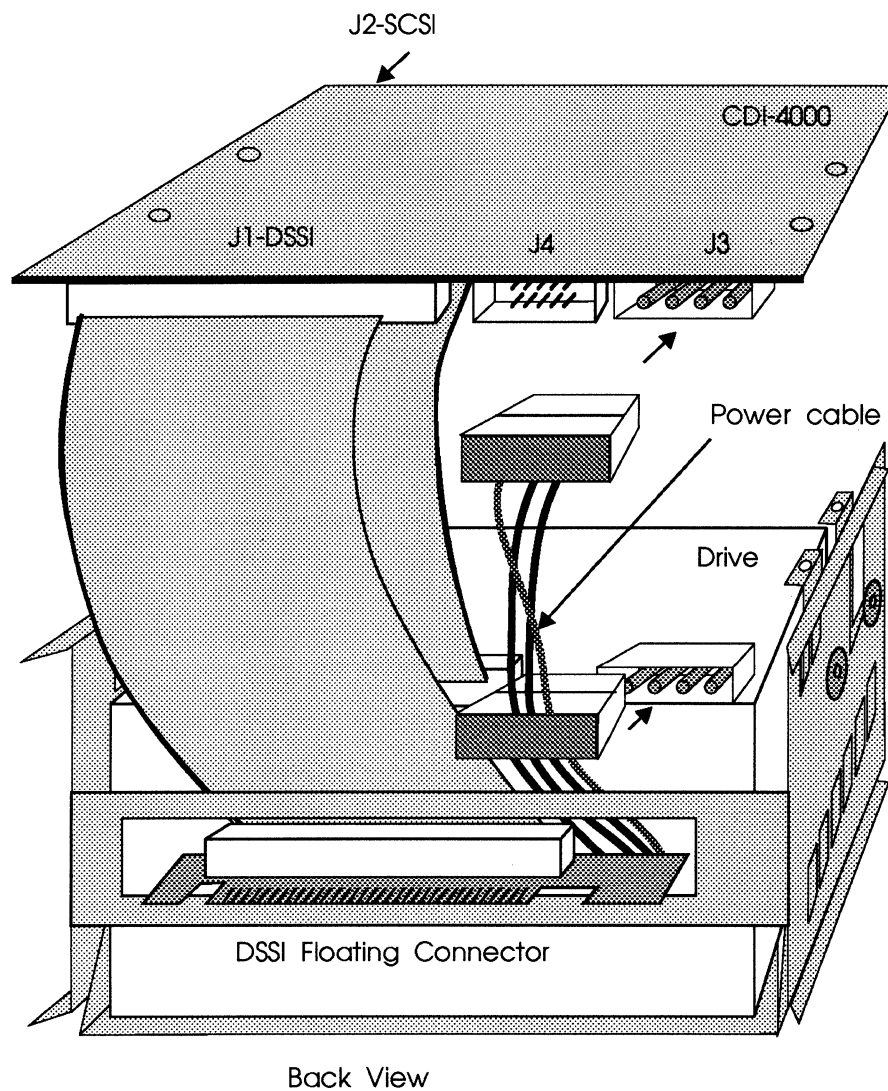

Figure 4-5: CDI-4000-SAE power connections
- 8 Connect the end of the power connector to the CDI-4000 at J3 and the middle power connector to the drive. See Figure 4-5.